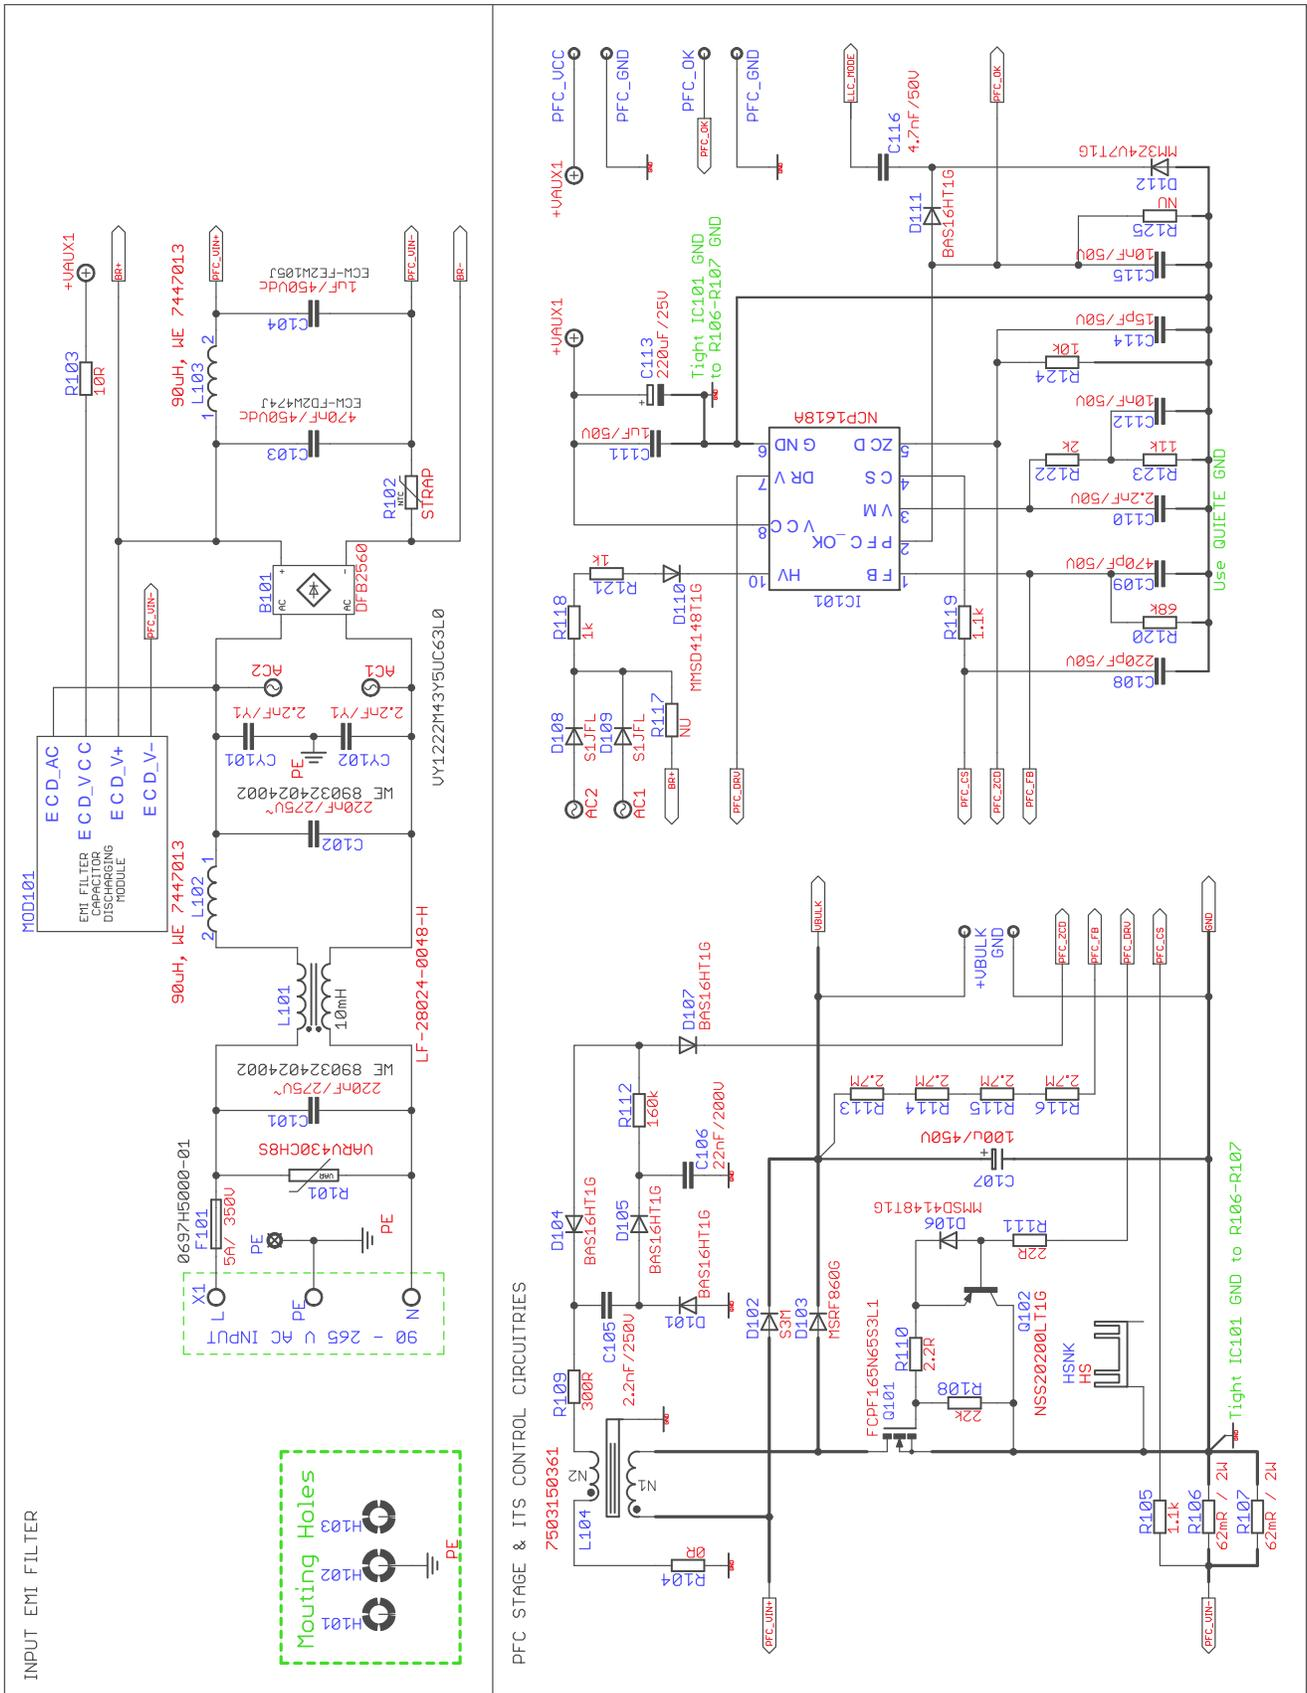
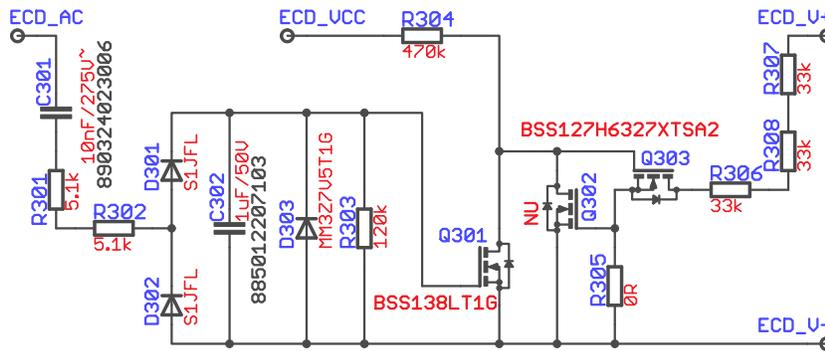

Figure 2. AOI Evaluation Board Schematic – PFC Front Stage
Figure 4. EMI Capacitor Discharging Module (MOD101)
Input side of evaluation board is protected by a several components. As first, it's a 5 A slow reaction fuse F101, which disconnects input in case wrong manipulation, line overvoltage stress event and unexpected stresses or conditions. Voltage dependent resistor R101 serves as input overvoltage protection triggered at approximately 275 V AC. Demo-board implements inrush-current limiting device, R102 NTC thermistor which is not assembled to allow clear efficiency measurement (Figure 2). It's recommended to assemble R102 in case of testing in hard conditions (using power grid directly or AC power supply without current limit). Use appropriate NTC inrush current limiter in case of need.
EMI filter is formed by components L101, L102, L103, C101, C102, C103, C104, CY101 and CY102 (Figure 2). The IC101 – NCP1618 measures input line voltage via diodes D108, D109, D110 and resistors R118, R121 to detect present of Brown-out/ Brown-in and SAG conditions as well as distinguishes input line level. This circuit also provides PFC Vcc Start-up feature for building controller Vcc supply. The Power Factor Corrector (PFC) power stage implements standard boost PFC topology composed of following power devices; bridge rectifier B101, power (boost) inductor L104, power MOSFET switch Q101, boost power diode D103, bypass diode D102, shunt resistors R106–R107 and bulk capacitors C107, C201–C202. The PFC controller IC101 (NCP1618) senses input voltage directly via pin 10 (HV) through network of D108, D109, D110 and resistors R118, R121. The PFC inductor current is monitored on the shunt resistor R106–R107. The series resistors R105–R119 set maximum current. Capacitor C108 that is connected between those resistors filters noise caused by switching. Maximum current through resistors can be calculated based on NC1618 datasheet. The PFC feedback divider has high impedance (approximately 10.8 M $\Omega$ ) which ensures low consumption in no-load or light-load mode conditions. PFC FB divider is created from upper resistor R113–R116, lower resistor R120 and capacitor C109. The PFC FB signal is filtered by capacitor C109 to minimize noise caused by the parasitic capacitive coupling between pin and other nodes that handle high dV/dt signals. PFC FB divider sets nominal bulk voltage level which is 400 V approximately. NCP1618 features positive bulk
Schematics diagram in Figure 2 contains module with designator MOD101. Internal schematic diagram of this module is displayed in Figure 4. MOD101 was designed as a part of PFC stage and it's a discrete solution for discharging EMI filter differential capacitors. This element was named as "EMI Capacitor Discharging Module". Module works in very simple way based on charge pump principle made of